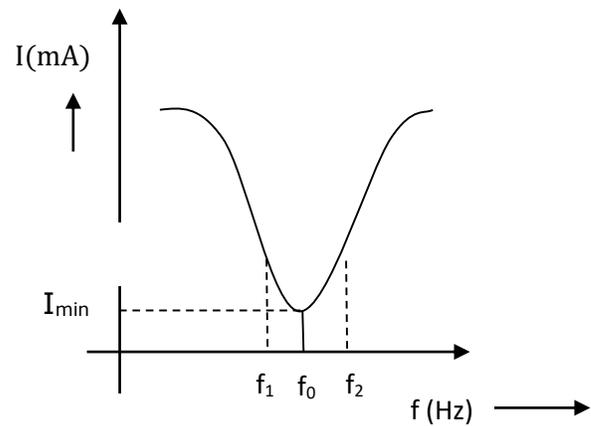

Figure 5.4
8. A graph of current versus frequency is plotted. The curve obtained is as shown in the Fig. 5.4.